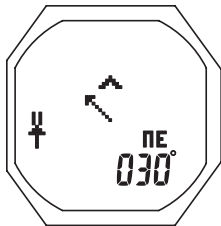

Fig. 150 - REF PREVIEW
**Reference Preview/Set**, information includes (Fig. 150) -